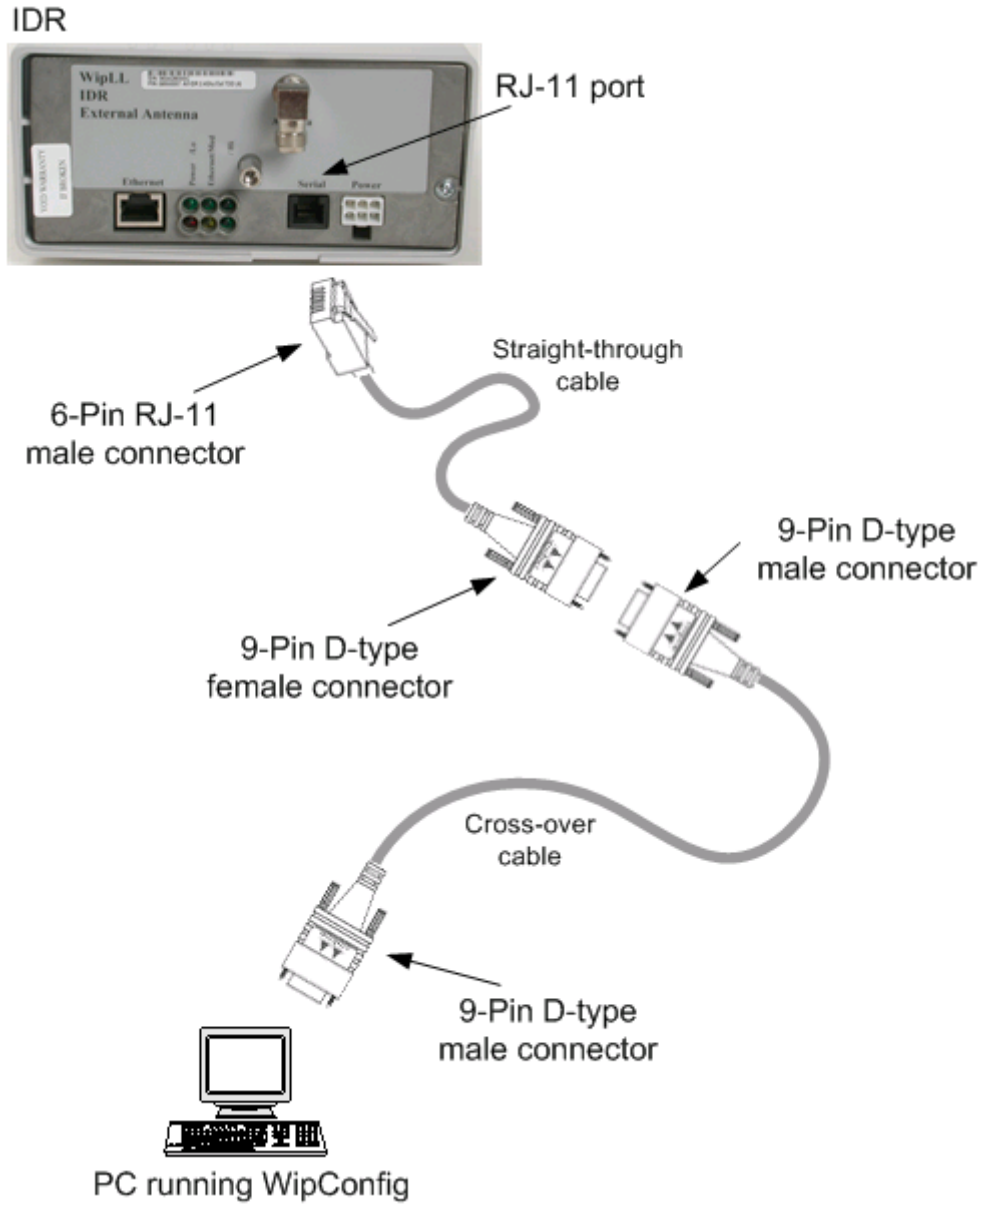

Figure 10-14: IDR-to-PC Serial Cable Connections
1. Connect the **6-Pin RJ-11** connector to the IDR's RJ-11 port (labeled **Serial**) located on the IDR's front panel (see Figure 10-14).
2. Connect the **9-Pin D-type female** connector, at the other end of the straight-through cable, to the **9-Pin D-type male** connector of the cross-over cable (see Figure 10-14).
3. Connect the **9-Pin D-type male** connector, at the other end of the cross-over cable, to the PC's serial port (see Figure 10-14).